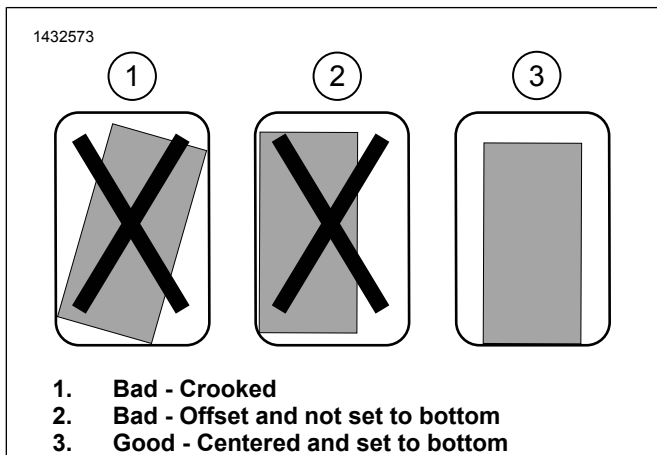

Figure 11. Mount Bracket Installation
- a. See Figure 11. Test fit mount bracket assembly. Bracket must be straight, centered, and as close to the bottom of the saddlebag as possible.
- c. See Figure 11. Test fit for final location ensuring bracket is straight, centered, and as close to the bottom of the saddlebag as possible.